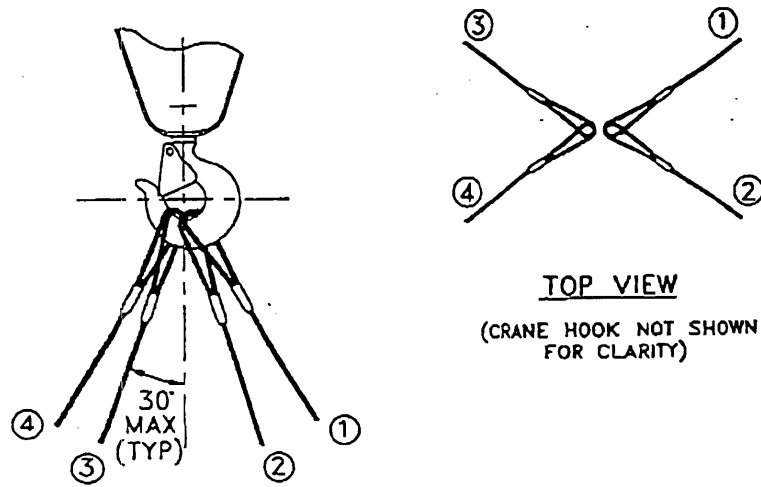

FIGURE 2
- II. Four (4) Leg Slings (Fig.2 - Hook Up Drawing)